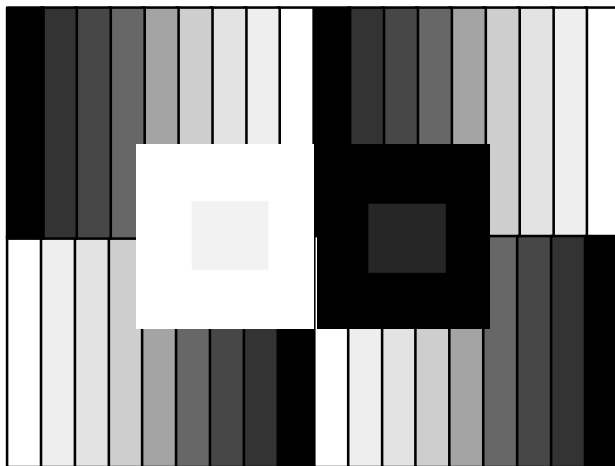

Figure 5-18. Grey/Pluge Test Pattern
8. Use the up/down arrow keys and adjust the black level to a point where the small, black square in the center of the larger black square is *just barely visible* (refer to Figure 5-18). Press Enter when finished.
barely visible inside the larger white square in the test pattern (see Figure 5-18).
4. Observe the two or three **brightest** bars in each of the four sections of the test pattern (see Figure 5-18). If any color is too prominent in these two or three bars, adjust the Sensitivity Offset for that color as shown below.